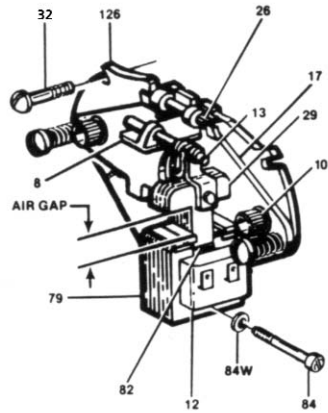

Figure 1. Motor Brake Adjustment
The motor brake should be checked periodically for wear of the friction discs and/or proper adjustment of the solenoid air gap. Refer to Figure 1. Normal lining wear will cause the solenoid lever (8) to move away from the solenoid frame (79) and thus increase the air gap and trolley stopping time.
Replacement of Coil (Refer to Figure 1 on page 17 and Exploded View Drawing on page 47).
2. Remove housing (3) from the brake and disconnect the coil wires from the cord.
3. Insert screw driver between support plate (126, Fig.1) and the top of lever arm (17, Fig.1). Wedge these apart and remove bearing pin (26, Fig.1) and solenoid lever (8, Fig.1) with link (13, Fig.1) and plunger (29, Fig.1).
4. Remove plunger guide screw (84, Fig.1) and both plunger guides (82, Fig.1). Slide old coil sideways out of the frame (79, Fig.1). If coil is difficult to move, tap lightly with a soft hammer.
5. Install new coil in the same relative position as the old coil and replace the plunge guides (82, Fig.1) and screw (84 and 84W, Fig.1).